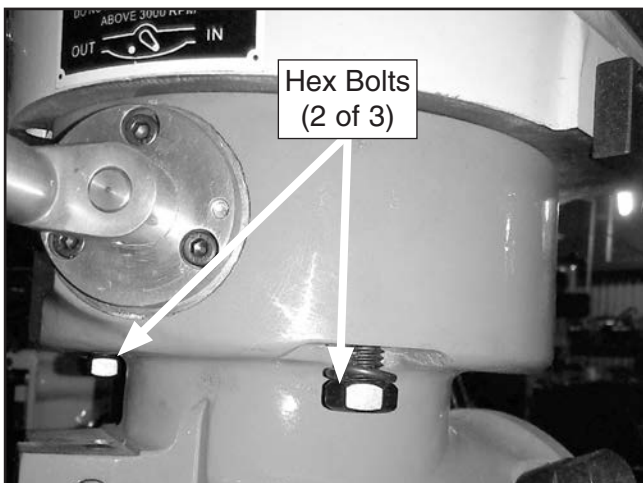

Figure 101. Location of hex bolts that secure headstock to spindle housing.
8. Remove (3) hex bolts shown in **Figure 101**, then remove headstock from spindle housing and place upside down on workbench.